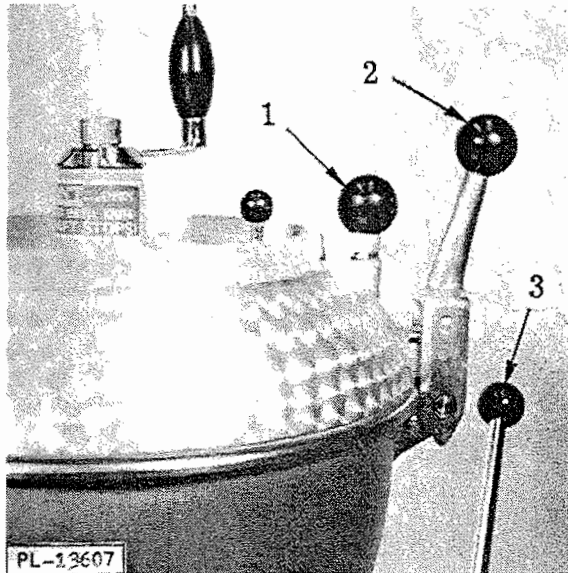
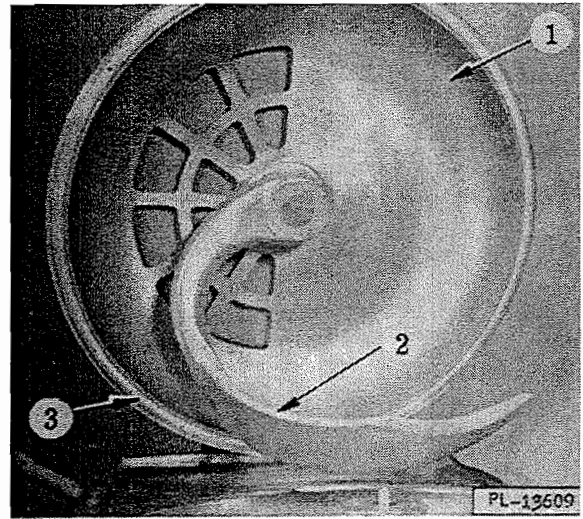
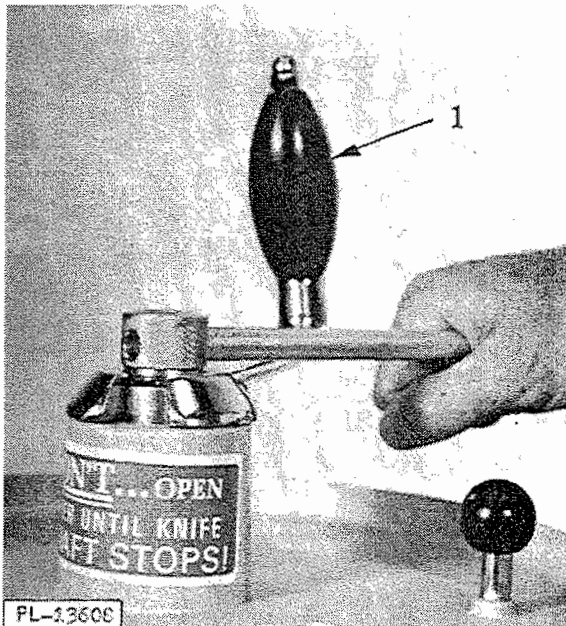
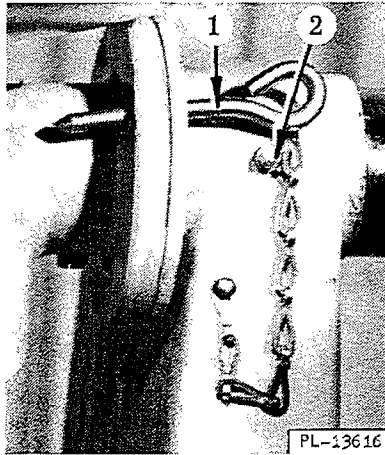

Fig. 5
Fig. 7
Fig. 6
Fig. 14
is swivel mounted on the base. A locking handle (3, Fig. 5) is used to hold or lock bowl in position and as a brake when tilting bowl.
Release the cover locking clamp (2, Fig. 5) then lift the bowl cover (1, Fig. 7) by the cover knob (1, Fig. 5). A removable sealing gasket (3, Fig. 7) prevents leakage and provides a tight seal.
To remove mixing baffle: Raise cover, loosen nut and withdraw handle (1, Fig. 6). Remove mixing baffle & shaft (2, Fig. 7).
**BEFORE LOADING OR OPERATING MACHINE:** Have bowl in vertical position, place bowl locking pin (1, Fig. 14) in horizontal locking hole and tighten bowl lock handle (3, Fig. 5). This prevents bowl from tipping.